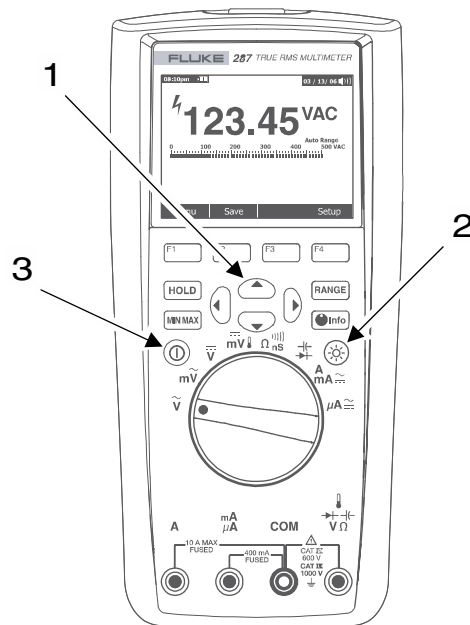

Figure 1. Multimeter Extreme Light Settings
1. Turn the multimeter on (Figure 1., Item 3) and set to the desired multimeter function (WP 0005).
2. Press the up arrow softkey (Figure 1., Item 1) while observing the display. The display content should become more defined. Continue to press the up arrow softkey until the desired display contrast is achieved or until the multimeter display no longer changes.
4. If the display is still not readable, adjust the backlight by depressing the Backlight button (Figure 1., Item 2).